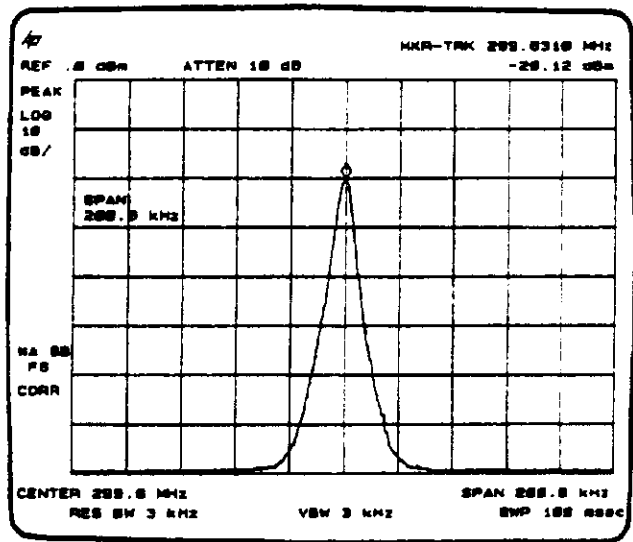

Figure 2-6
3. Press **SPAN**, **2**, **0**, **0**, **kHz**. The span decreases in steps as automatic zoom is completed. You can also use the knob or step keys to decrease the span. See Figure 2-6.